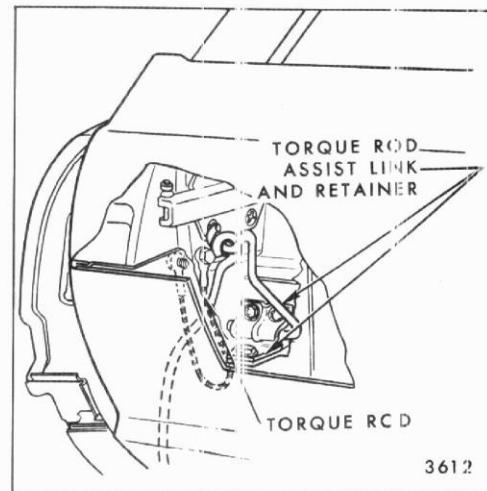

Fig. 9-32-Dual Acting Tail Gate Assist Link
4. Close the tail gate and open sufficiently as a gate to achieve a neutral torque rod position or until tension on torque rod has been relieved. With torque rod in a neutral position, remove torque rod assist link retainer attaching bolt (Figure 9-32) and disengage assist link from end of torque rod.